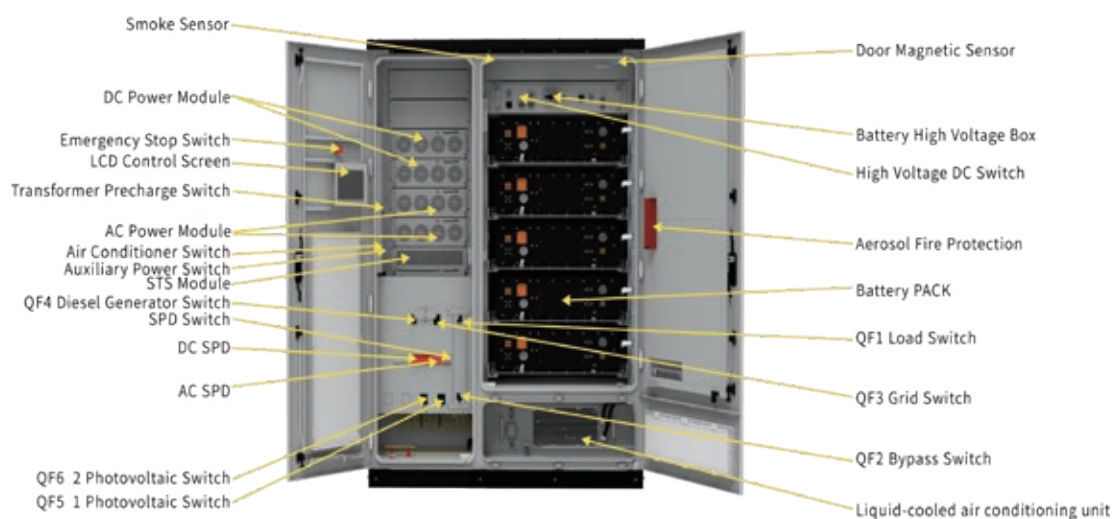

Figure 4.1 Position diagram of power distribution switch
- 5) Component inspection: Refer to Figure 4.1 , the circuit breakers are all in the open position; the lightning arrester indicator is green .
- 2) Referring to Figure 4.1 , close the transformer soft-start switch MCB1 and auxiliary power switches MCB 2~4 , and Open the QF3 AC plastic case switch to complete the transformer soft-start .
- 2) Referring to Figure 4.1 , disconnect the air conditioning switch MCB2 and auxiliary power switch MCB 3 of the system and battery auxiliary power switch ;
- 2) Referring to Figure 4.1 , disconnect the system auxiliary power switch MCB 2-3 and the battery auxiliary power supply , and disconnect the high-voltage box voltage battery load switch ;
- 1、 Turn on the converter: first check the power-on status of the whole machine, refer to Figure 4.1 Close the transformer soft-start switch MCB1 and auxiliary power switch MCB 2~3 , Open the QF3 AC molded case switch, after completing the transformer soft-start.